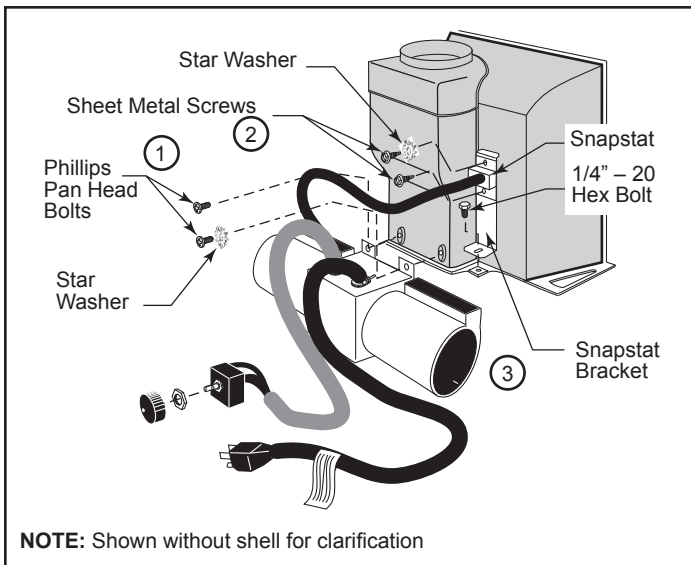

**Figure 15 - Fan kit components.**
1. The fan kit includes a Blower Assembly and a Rheostat Assembly, connected by a cable. (Figure 15) The Blower Assembly mounts to the bottom rear of the stove, and the Rheostat mounts to the valve cover plate. The assembly includes a 'snapstat' which automatically turns the fan On (or Off) above (or below) approximately 109°. The Rheostat also provides a range of fan speed settings from Off (which overrides the snapstat function) to High. Unpack and inspect the Blower assembly. Confirm that the fan spins freely.